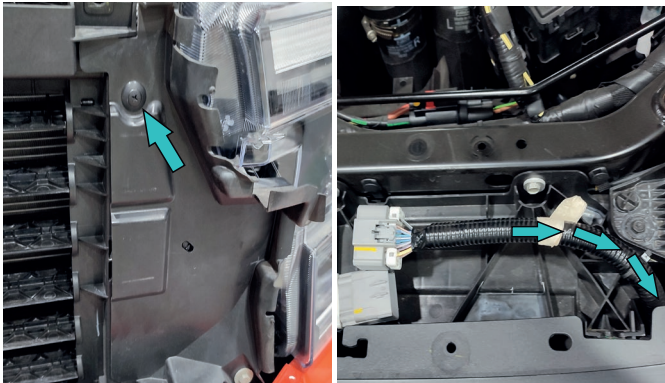

Fig.15
15. Remove the clip, unbend factory dust cover and pull-out factory wiring completely (fig.15).